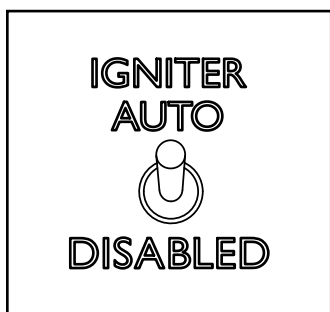
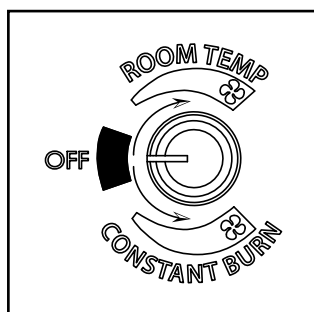

Figure 4.4
Figure 4.5
4. Flip toggle switch to desired mode "Auto or Disabled". Figure 4.4. Set feed limit knob to desired setting and turn mode dial to "Room Temp" or "Constant burn" Figure 4.5.